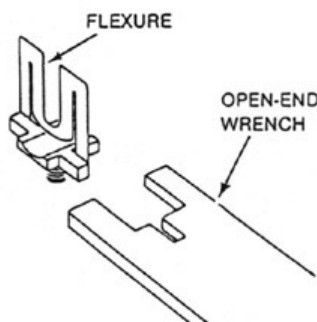

Figure 10.
3. Use open-end wrench (preferably one shaped to fit base of flexure). See Figure 10.